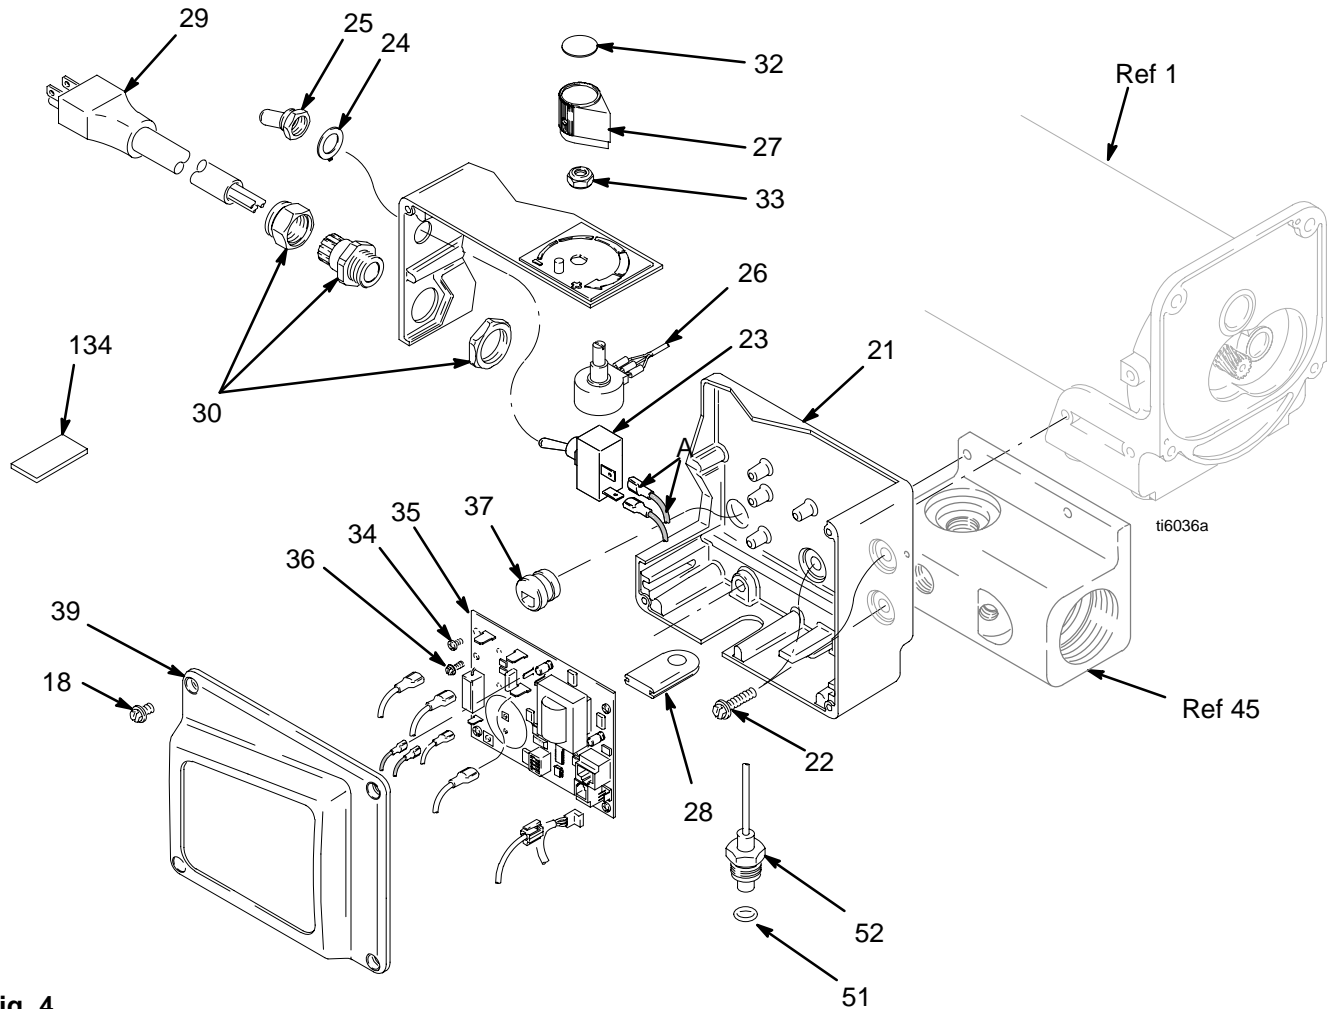

Fig. 4
1. Fig. 4. Remove four screws (18) and pressure control cover (39).
2. Disconnect two wires (A) from ON/OFF switch (23).
3. Remove toggle boot (25) and locking ring (24). Remove ON/OFF switch (23).
Refer to Fig. 4.
4. Fig. 4. Install motor control board (35) with five screws (36).
5. Connect to motor control board (35):
- Lead (E) to transducer.
- Lead (D) to potentiometer.
6. Install cover (39) with four screws (18).
2. Remove drive housing (10), Drive Housing Replacement, page 23.
3. Remove four screws (18) and cover (39), Fig. 4, page 19.
4. Disconnect all leads from board (35). Remove five screws (36) and board.
5. Remove strain relief (37) and motor fan (2), page 26.
6. Remove three screws (22) behind board and remove control housing (21), Fig. 4, page 19.
7. Remove four screws (22) and motor (1) from frame (63).
1. Install new motor (1) on frame (63) with four screws (22).
2. Install control housing (21) with three screws (22).
3. Install strain relief (37) and motor fan (2), page 26.
4. Install board (35) with five screws (36), Fig. 4, page 19. Connect all leads to board (35).
5. Install drive housing (10), Drive Housing Replacement, page 23.
6. Install pump (13), Displacement Pump Replacement, page 25.